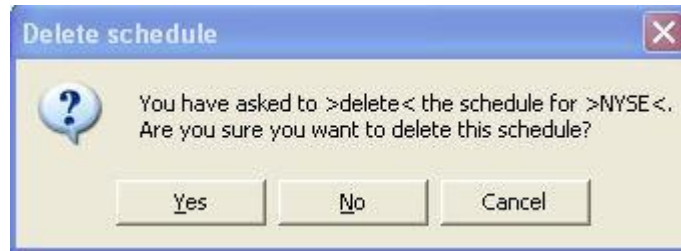

Figure 12-24
- e. Press the "Delete" key on your computer keyboard and a window like the one shown in Figure 12-24 will appear.
- iii. Press the "Delete" key on your computer keyboard and the "Delete schedule" window will appear (see Figure 12-24).